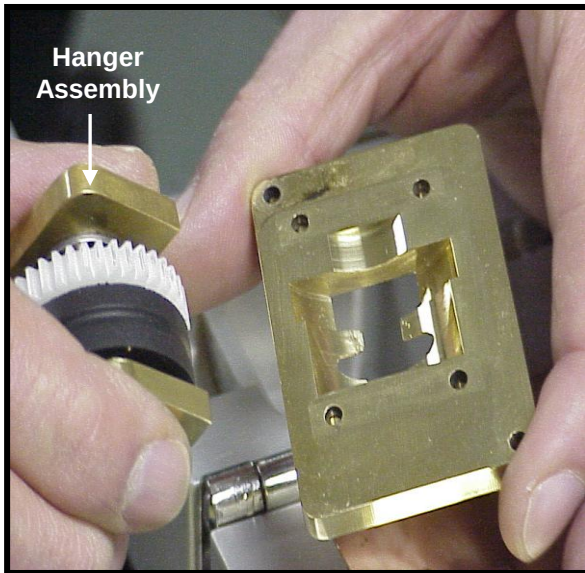

Figure 40
14.3.2.4 Separate Bearing Hanger Assembly from the Upper Brass Plate. **See Fig. 40**